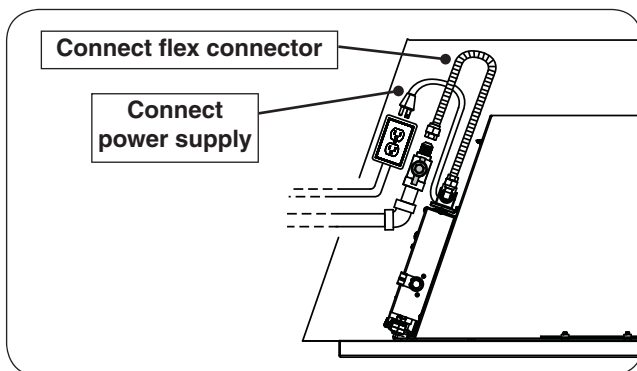

Fig. 26-2 Make gas & electrical connections
2. Connect the flex connector coming from the left side of the unit to the previously plumbed gas supply / shut-off valve (see Fig. 26-2). Use a pipe compound resistant to all gasses on all male connections except brass to brass connections.
4. Connect the power supply cord coming from the left side of the unit to the previously wired 110V receptacle (see Fig. 26-2).